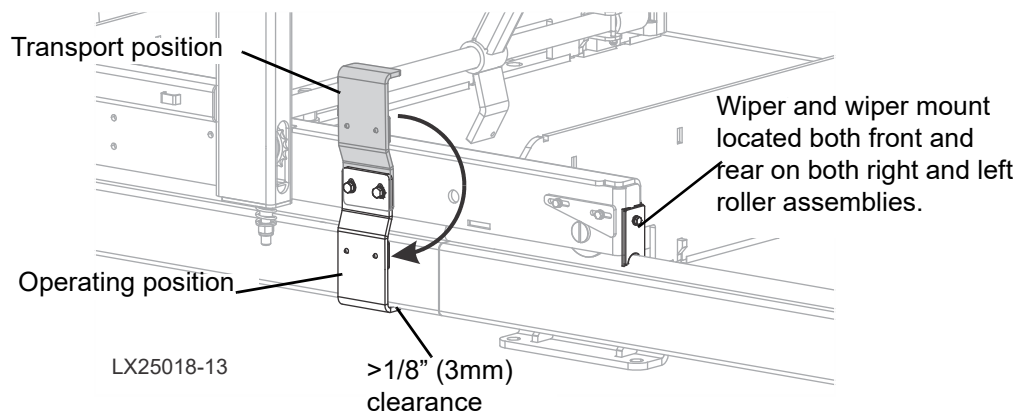

FIG. 2-14
4. Remount the mast safety assemblies (right and left) from the transport position to the operating position. See Figure 2-14.
See Figure 2-14.